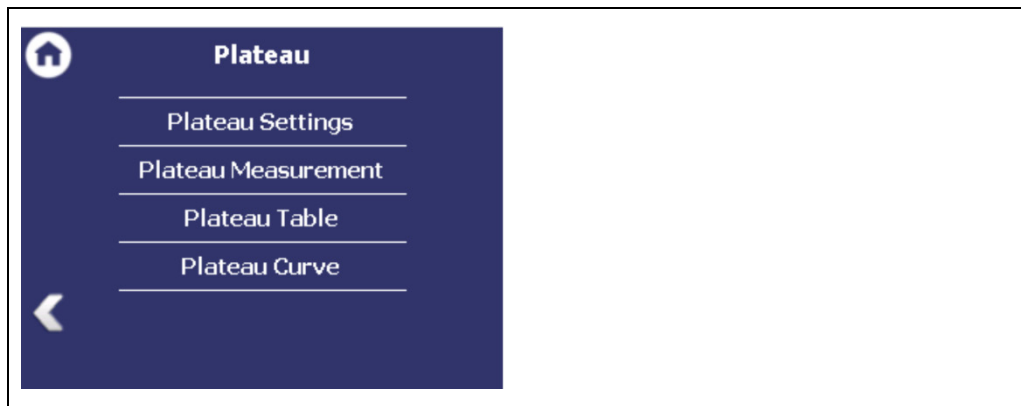

Fig. 47 Menu "Plateau"
A green bar appears with error-free status of the detector (Fig. 47, item 1).
Device ID	Shows the ID (Fig. 47, item 2) of the detector.
Live Rate	The "Live Rate" (Fig. 47, item 3) displays the current, unfiltered count rate.
HV Mode	In the field "HV mode" (Fig. 47, item 4), the HV mode is displayed, which is chosen under Device Setup Setup Detectors [NAME DETECTOR] High Voltage HV Settings.
HV Feedback	The field "HV Feedback" (Fig. 47, item 5) displays the actual measured value in volts.
Temperature	The field "Temperature" (Fig. 47, item 6) indicates the current temperature of the detector in C°.